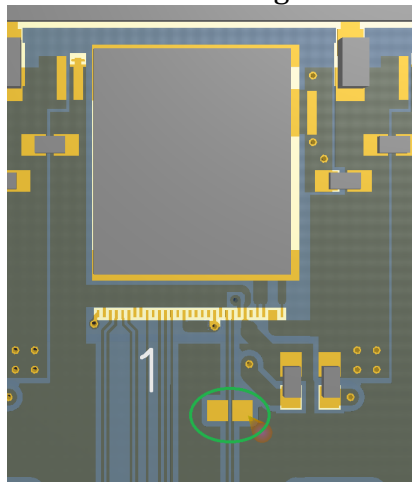

Figure 1 Bond-off area (in circle) for wire-bonding pull test.
7. Program first chip where the bond-off area is (see Fig.1).